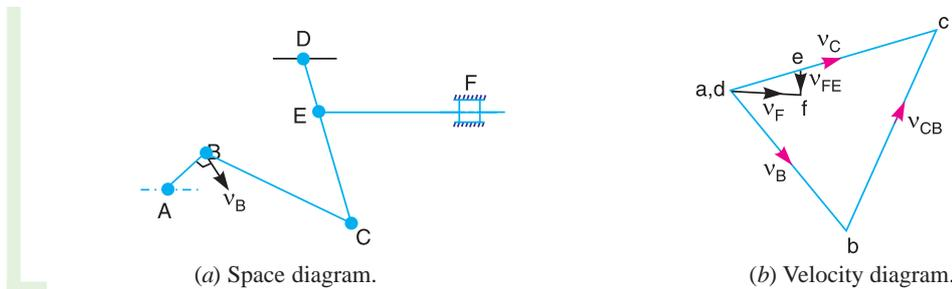

Fig. 7.12
First of all draw the space diagram, to some suitable scale, as shown in Fig. 7.12 (a). Now the velocity diagram, as shown in Fig. 7.12 (b), is drawn as discussed below:
**1.** Since the points  $A$  and  $D$  are fixed, therefore these points are marked as one point\* as shown in Fig. 7.12 (b). Now from point  $a$ , draw vector  $ab$  perpendicular to  $AB$ , to some suitable scale, to represent the velocity of  $B$  with respect to  $A$  or simply velocity of  $B$ , such that
**3.** Since the point  $E$  lies on  $DC$ , therefore divide vector  $dc$  in  $e$  in the same ratio as  $E$  divides  $CD$  in Fig. 7.12 (a). In other words